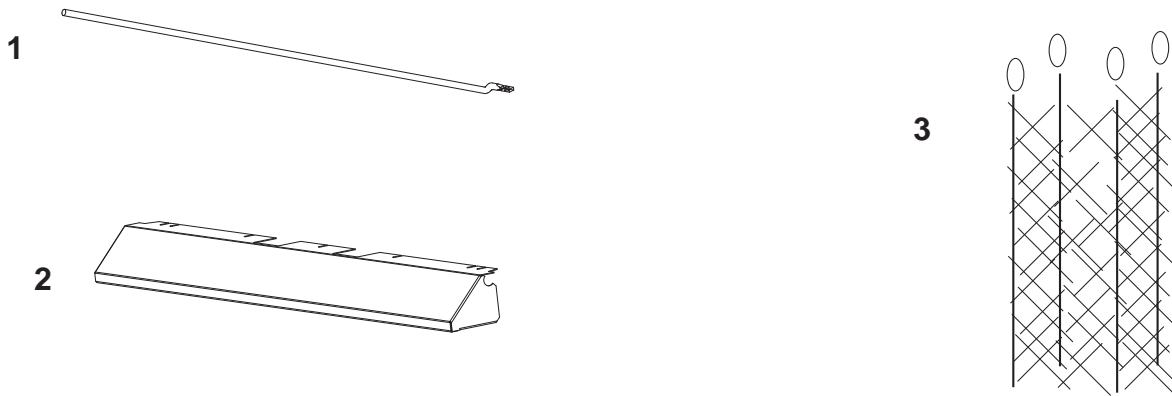

Fig. 17
5. Using the provided 1N3216 brick retainer (see figure 17), retain the top of the center panel of the brick liner (use 1 retainer on **VFBC32B**, and 2 on **VFBC36B** and **VFBC42B**).